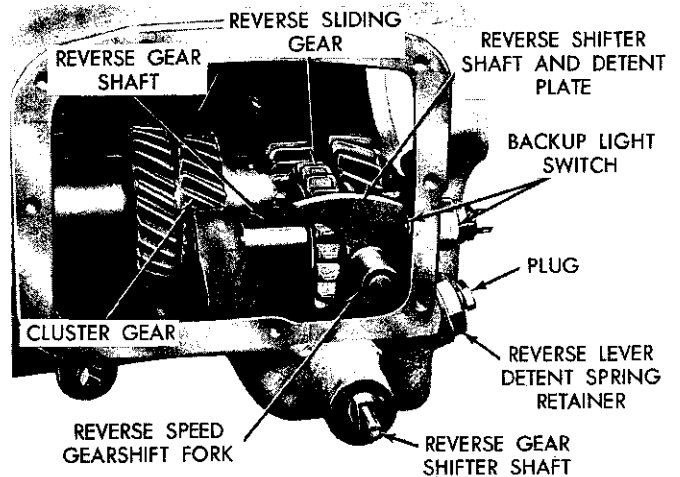

Fig. 15—Gear, Shaft and Lever Identification
Figure 15 shows the reverse gear shift fork, the reverse sliding gear, the reverse sliding gear shaft and the cluster gear.
(10) Remove the reverse gearshift lever detent spring retainer, gasket, plug and detent ball spring from the rear of the case (Fig. 15).
(4) With the reverse slider gear correctly positioned, drive the reverse gear shift into the case far enough to be able to install the woodruff key. Drive the shaft into position, flush with the end of the case (Fig. 15).
(5) Install the back-up light switch and gasket (if so equipped), and tighten securely.